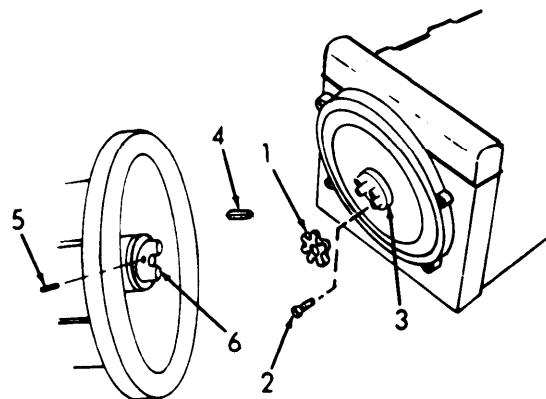

Figure 4-8. Flexible coupling, removal and installation.
(1) Remove centrifugal pump as per 4-6.2.
(2) Refer to figure 4-8. Remove spider (1). Remove cap head screws (2), then remove drive half of coupling (3). Remove key (4), set screws (5), then remove driven half of coupling (6).